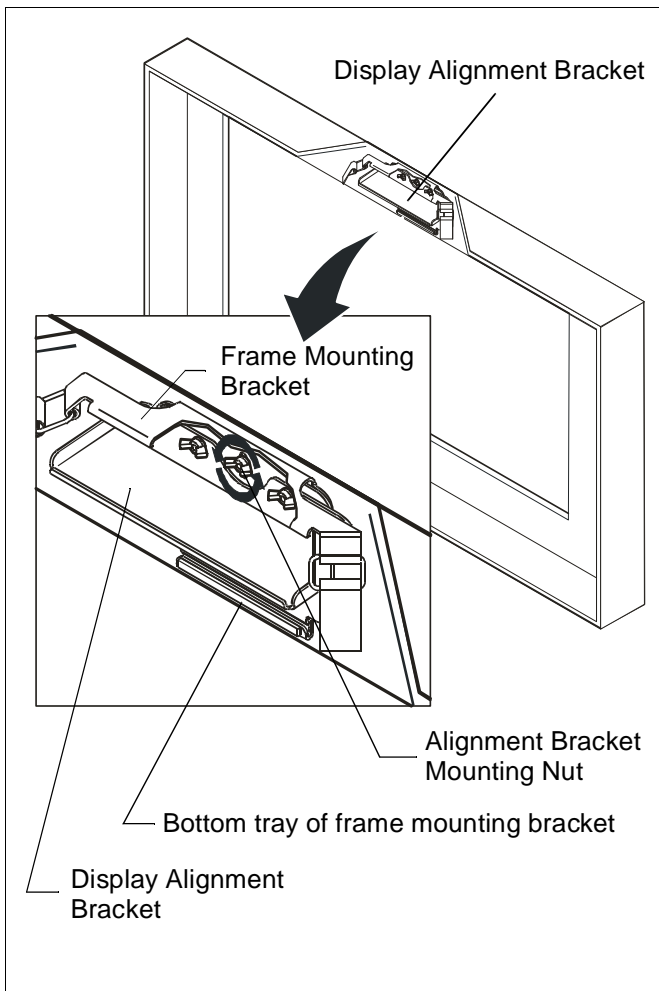
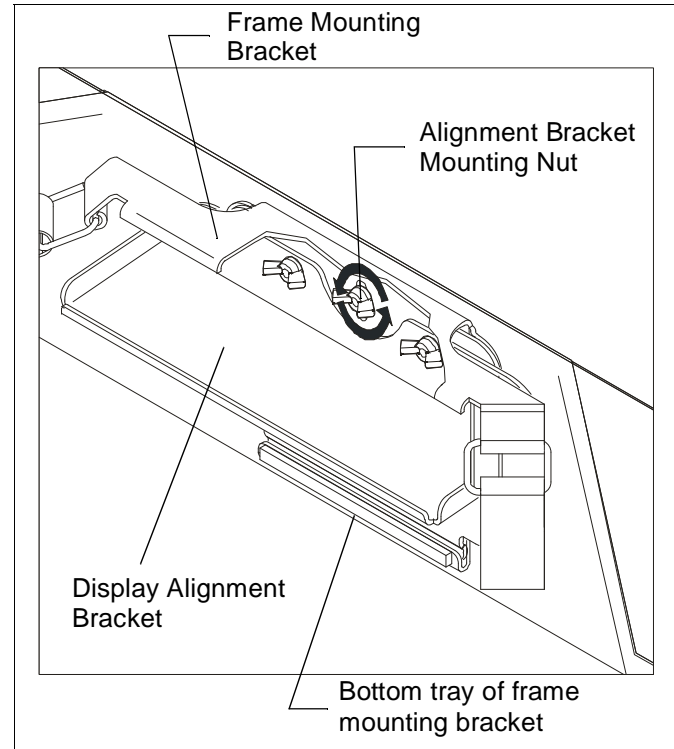

Figure 2
Figure 3
2. Remove alignment bracket mounting nut and set aside for reuse. (See Figure 2) and (See Figure 3)
3. Tip top of display alignment bracket outward until free of stud in frame mounting bracket. (See Figure 2) and (See Figure 3)
4. Slide lower lip of display alignment bracket up and out of bottom tray of frame mounting bracket. (See Figure 2) and (See Figure 3)
8. Slide lower lip of display alignment bracket into bottom tray of frame mounting bracket. (See Figure 2) and (See Figure 3)
9. Tip top of display alignment bracket towards frame until stud in frame mounting bracket is through slot in display alignment bracket. (See Figure 2) and (See Figure 3)